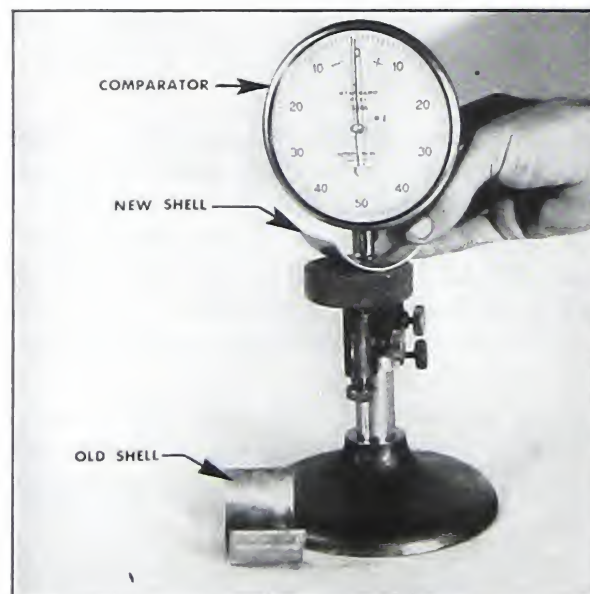

Fig. 2-15. Comparing thickness of new and worn shells
1. Connecting rod shells and main bearing shells should be gauged for thickness with a comparator or with a ball point micrometer. Shells should not be reused if worn more than $.002$ in thickness, or if they are scored or damaged in any other way than by normal wear. See Fig. 2-15.